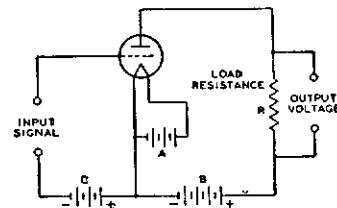

Fig. 14
The plate current flowing through the load resistance (R) of Fig. 14 causes a voltage drop which varies directly with the plate current. The ratio of this voltage variation produced in the load resistance to the input signal voltage is the voltage amplification, or **gain**, provided by the tube. The voltage amplification due to the tube is expressed by the following convenient formulas: